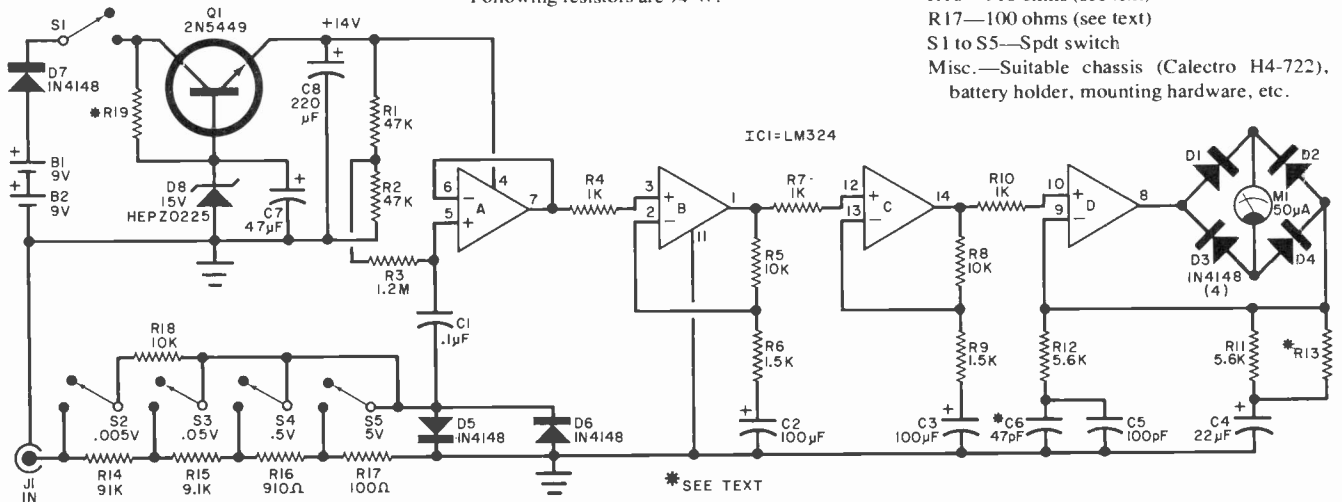

Fig. 1. The first three op amps in IC1 form a sensitive ac amplifier and the fourth drives the meter.
**Circuit Operation.** The circuit made up of transistor *Q1*, *R19*, *C7*, and *D8* is a regulated power supply which provides 14 volts for *IC1* (Fig. 1). Due to the presence of *C7*, the supply turns on slowly to prevent capacitor charging currents on *C2*, *C3*, and *C4* from damaging the meter. Diode *D7* protects the circuit from an accidental reversal of battery polarity.
Fig. 3. To add a 50-volt range to the Audio Detective use either a rotary or discrete switches as shown here. Note the changes in the bottom two resistors as compared to Fig. 1.
**Modifications.** The schematic in Fig. 1 shows the input attenuator spanning four ranges from 0.005 to 5 volts. If you want to extend the upper limit, use the attenuator shown in Fig. 3. Two versions are shown—one using five slide switches and one a rotary switch. Either will extend the range to 50 volts.  $\diamond$
**How It Works.** Battery *B1* (Fig. 1) gets a constant trickle charge from the transformer through *D1* and *R1*. As shown here, the battery is made up of two 1.25-V NiCd cells. Sealed NiCd or lead-acid storage cells with higher voltage ratings could be used. Vented secondary batteries can be used if the electrolyte is checked every few months. If carbon-zinc or manganese-alkaline cells are used, the value of *R1* should be increased to 47,000 ohms. Remember also that manganese-alkaline and mercury cells may burst when recharged.
Fig. 1. The two-transistor audio oscillator is inoperable until the SCR conducts. This occurs when the power line fails and the battery voltage is applied to the SCR gate. Do not use an on-off switch with the unit.